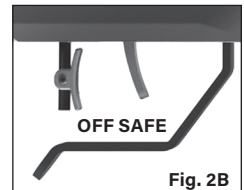

Fig. 2B
1. Push the safety all the way forward (Fig. 2B) for "OFF SAFE".